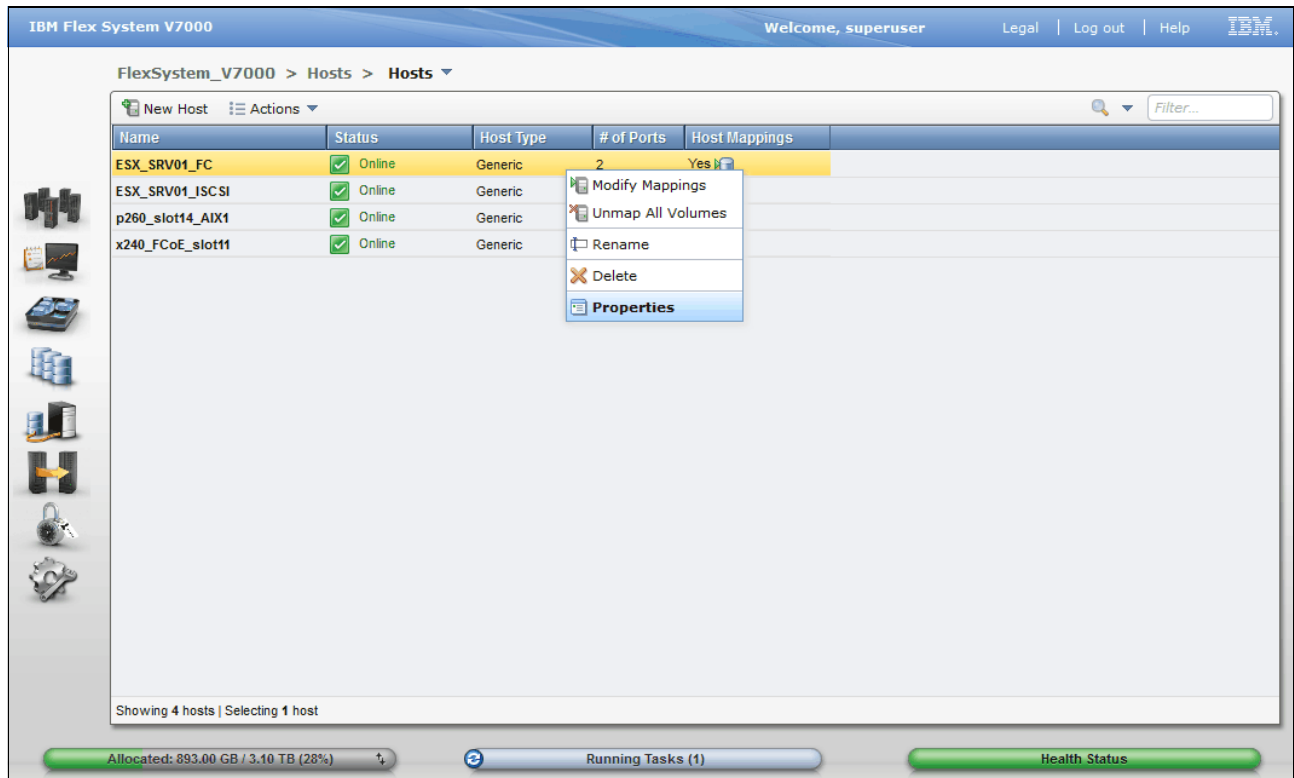

Figure 12-36 Example ESX FC host
1. Right-click your VMware ESX Fibre Channel host in the All Hosts view (Figure 12-36 on page 499) and select **Properties**.